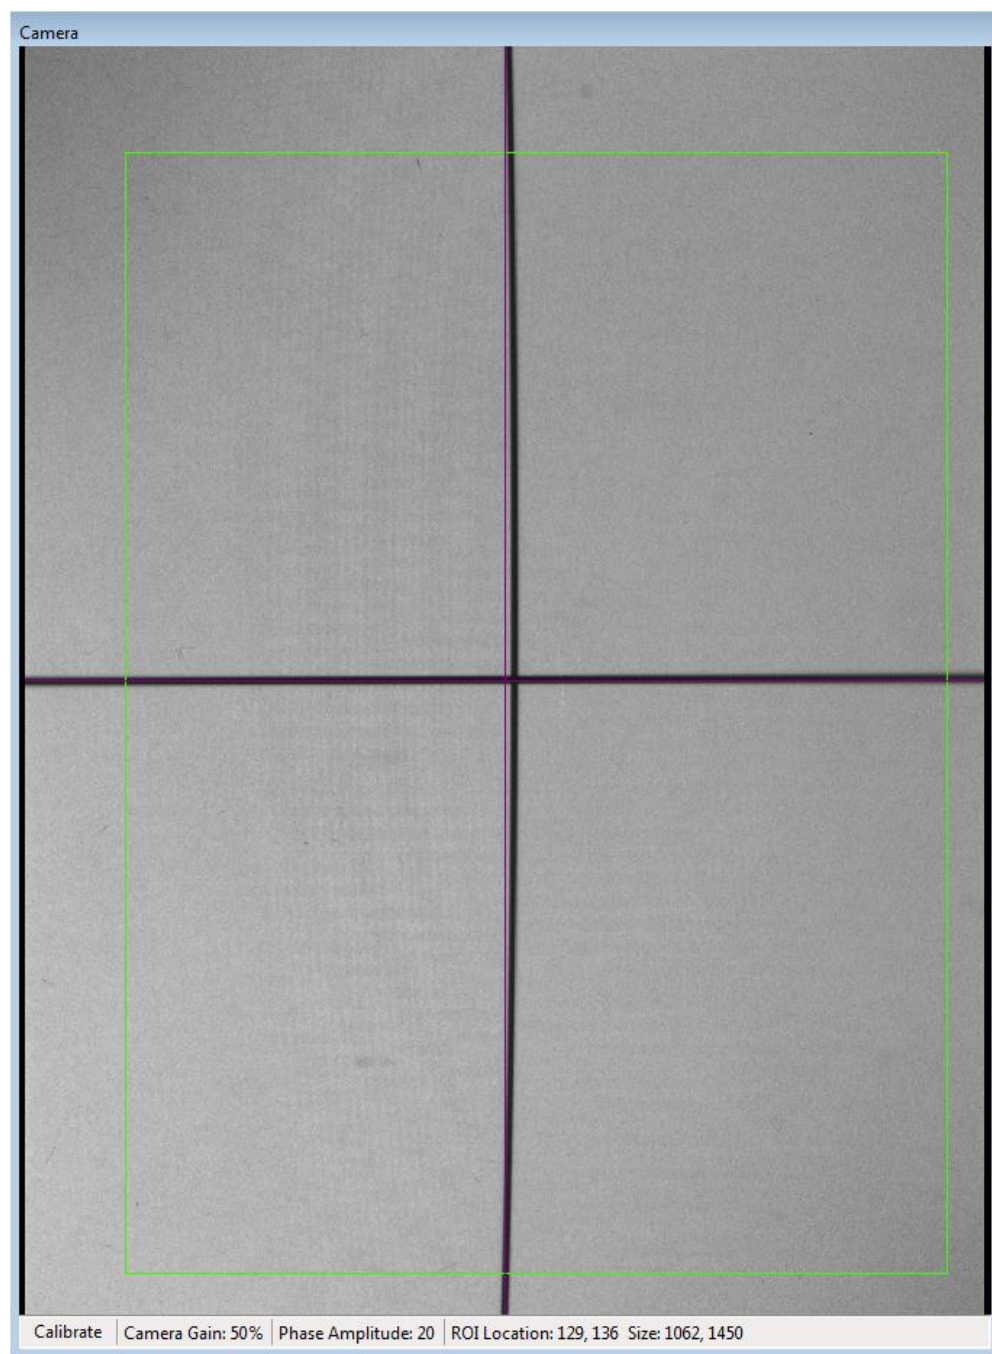

Figure 3.2 Projector and Software Crosshair Alignment
2. Jog the flat up or down to ensure that the ends of the vertical line from the projector crosshairs line up with the ends of the software crosshairs as closely as possible. This ensures the block is in the middle of the depth of field. See **Figure 3.2**.